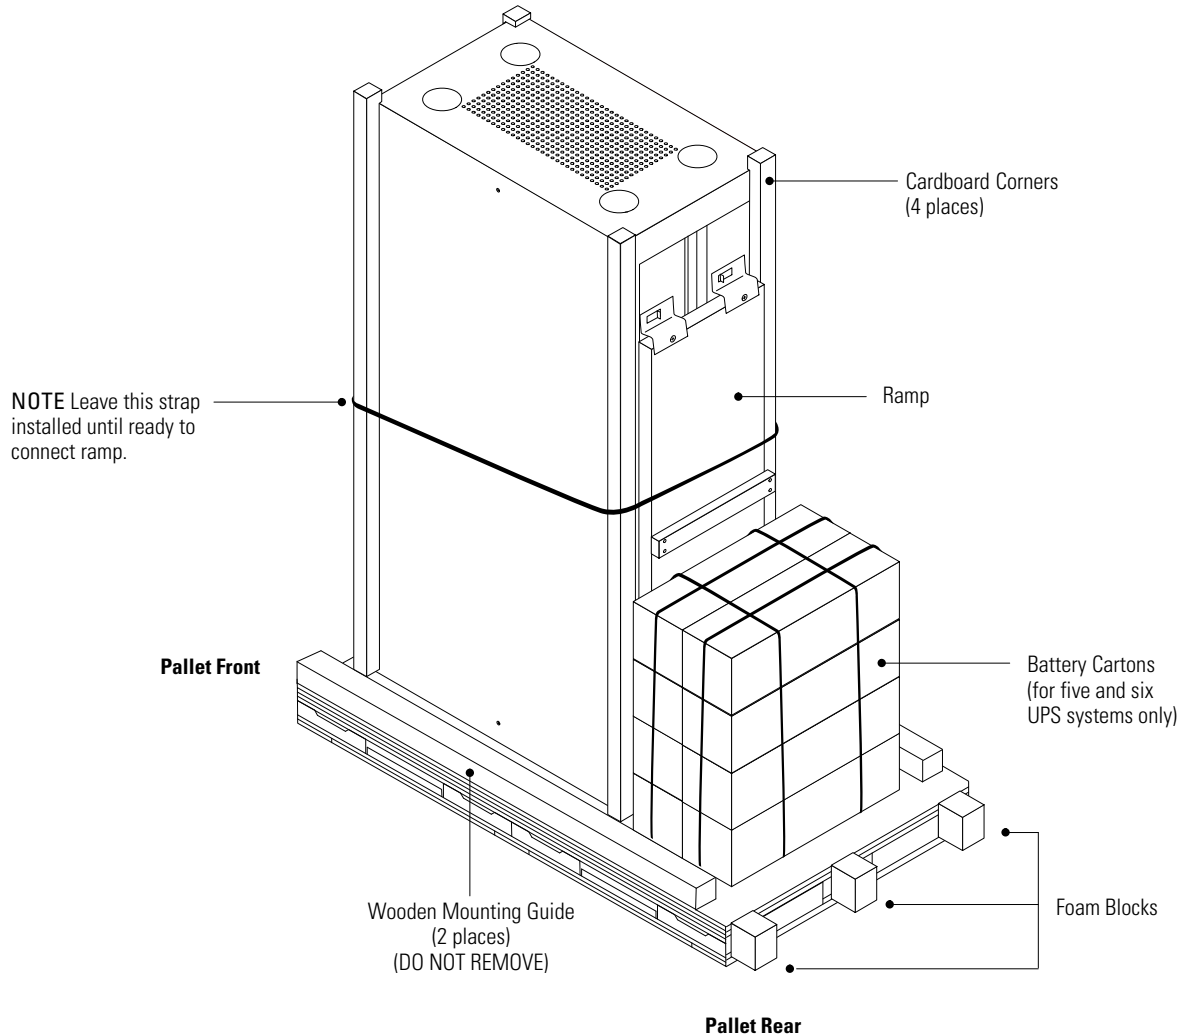

Figure 4. Unwrapping the System
3. **Five and six UPS systems only.** Cut the battery carton straps (see Figure 4).
4. **Five and six UPS systems only.** Remove the battery cartons from the pallet (see Figure 4). Retain the batteries to install in the top two UPS cabinets after the system is moved to the final location (described in "Installing the UPS Internal Batteries" on page 30).